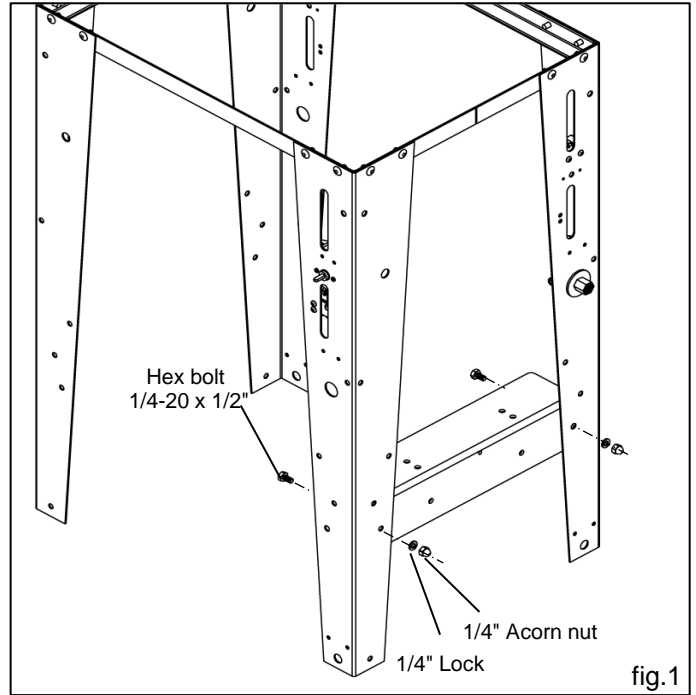

fig.1
Position the pump mount bracket between the timer leg and the filter/regulator leg of the stand assembly. Attach the pump mount bracket to the stand using (2) 1/4-20 x 1/2 hex bolts, (2) #10 flat washers, (2) 1/4" lock washers and (2) 1/4" acorn nuts per leg [see fig.1].